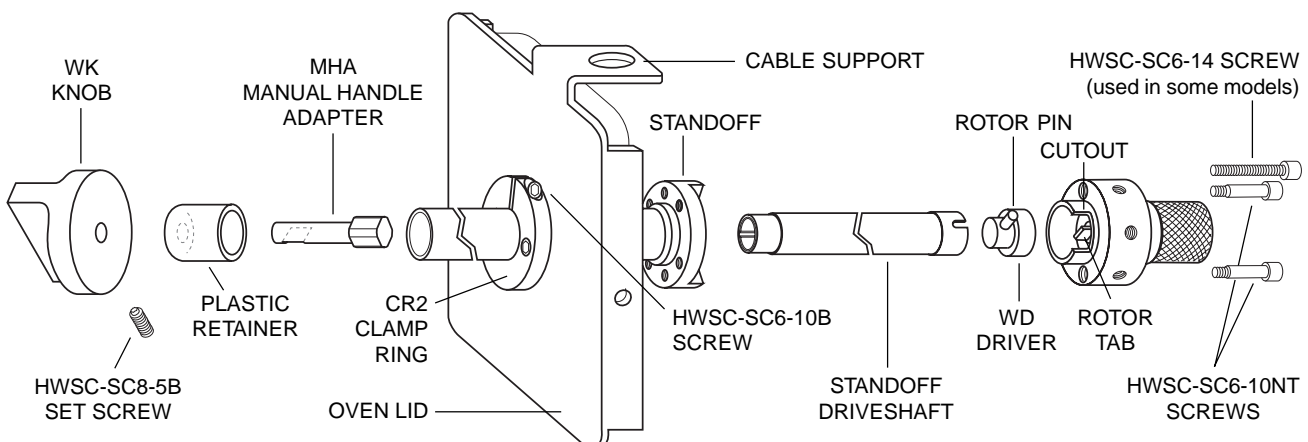

Figure 3: W type valve with standoff and standard WK knob
1. For a manual valve, remove the knob or handle from the standoff assembly. (Figure 3)
Refer to **Figure 3**. For a valve on an air or electric actuator, find the appropriate heading on the next page.
10. Turn the valve to its counterclockwise position, as shown by the rotor tab in **Figures 3 and 4**. The valve and actuator are now both in the LOAD position.